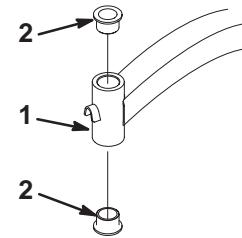

Figure 70
4. Insert a pin punch into the mounting tube and carefully drive out the bushings (Fig. 70). Clean the inside of the mounting tube.